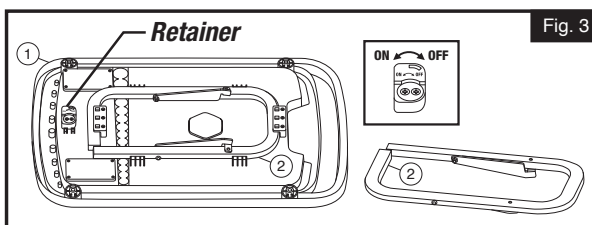

Fig. 3
5. Remove the Tool Tray Frame (2) from the underside of the Tool Tray (1) by twisting the retainer towards the "ON" position and sliding the tool tray frame off. (Fig. 3)